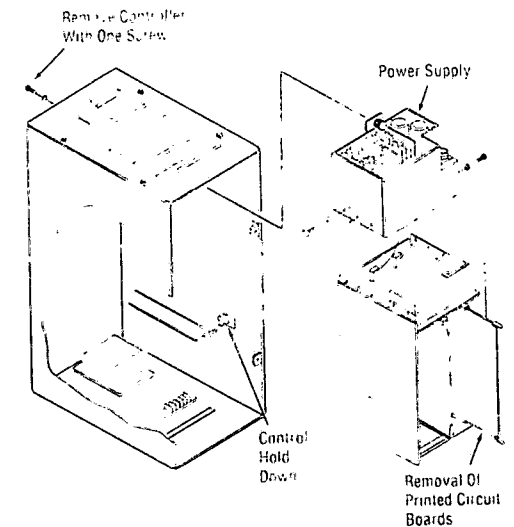

Figure 7-14. CONTROLLER ASSEMBLY.
4. The three printed circuit boards in the controller are removed by lifting the card pulls to disengage the contacts from the socket, and pulling the card straight out. See Figure 7-14. Use both card pulls simultaneously, to insure starting the card straight. This prevents damage to the socket controls.
5. The controller itself is held in position by a single screw, located at the top. Unplug the cables from the controller, remove screw, and slide the controller forward on its rails. See Figure 7-14.
6. The power supply is secured to the top of the controller with six screws. To remove the power supply, unplug the cables attached to it and remove the six screws. See Figure 7-14.